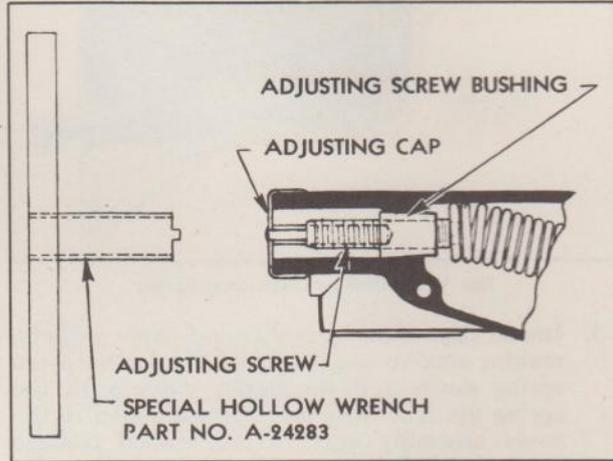

Fig. 18—Points of Governor Adjustment
In order to eliminate a surge or flat spot in engine operation, it is necessary to change the calibration of the governor spring tension by means of the adjusting screw bushing (Fig. 18). Unless absolutely
1. If the governor is too sensitive, or on the point of surging, remove seal. Remove adjusting cap by pulling straight out (do not unscrew from adjusting screw). Place the special hollow wrench, Handy governor part No. A-24283, Fig. 18, in the slots of the adjusting screw bushing. (This hollow wrench is obtainable from the King-Seeley Corporation, Ann Arbor, Michigan.) Turn adjusting screw bushing clockwise $\frac{1}{4}$ turn. Replace adjusting cap and with it, turn adjusting screw clockwise one full turn. Repeat this adjustment until desired regulation is obtained.